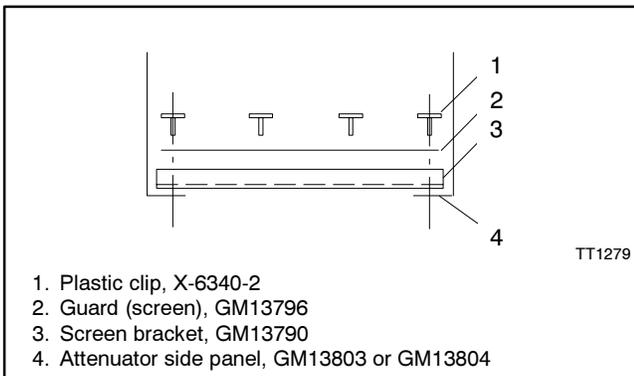

Figure 6 Guard and Screen Bracket Assembly
- 3.7 Set one guard (screen, GM13796) in each attenuator. Secure the guards and brackets as shown in Figure 6 using the plastic clips (X-6340-2) provided.